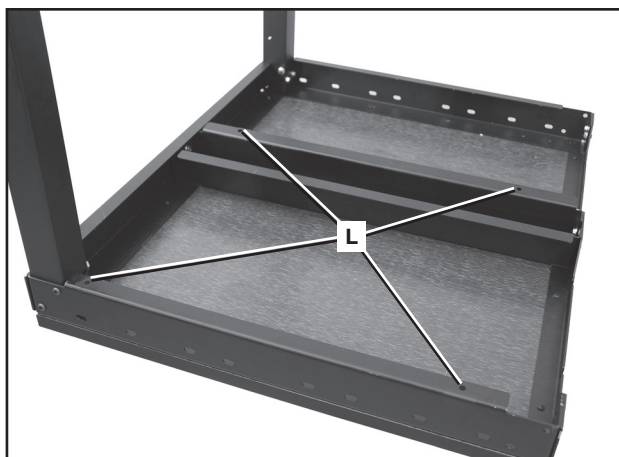
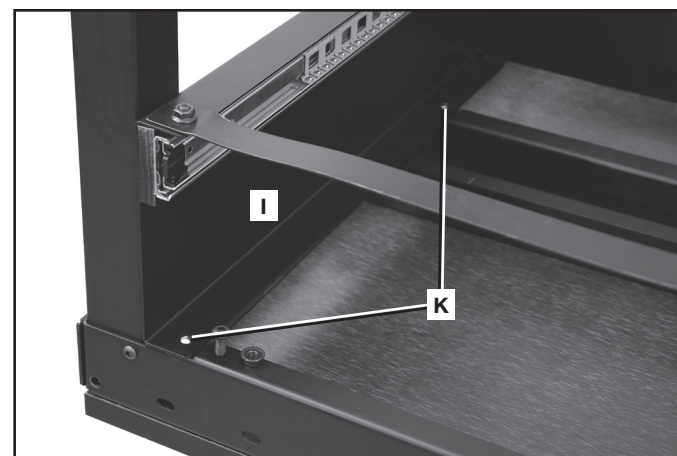

FIG. 7
FIG. 6
Turn drawer frame (I) upside down (as shown in Fig. 6) and line up four holes in drawer frame — two shown at (K) Fig. 6 — with the four holes (L) Fig. 7 in the bottom of the extension table.
Attach the frame to the bracket using four 1/4-20 x 1/2" (13 mm) hex socket button head cap screws and 1/4-20 flange nuts. Insert the screws down through hole (K) Fig. 6 and tighten underneath with flange nut.